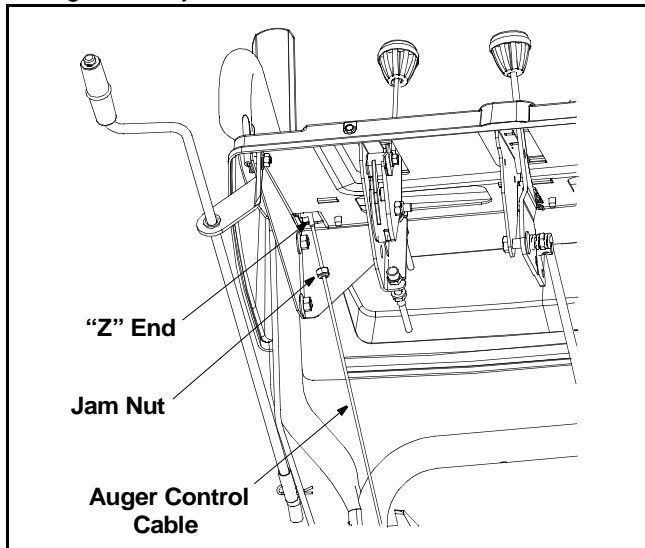

Figure 7
- Loosen the jam nut and thread the cable in (for less slack) or out (for more slack) as necessary. See Figure 7.